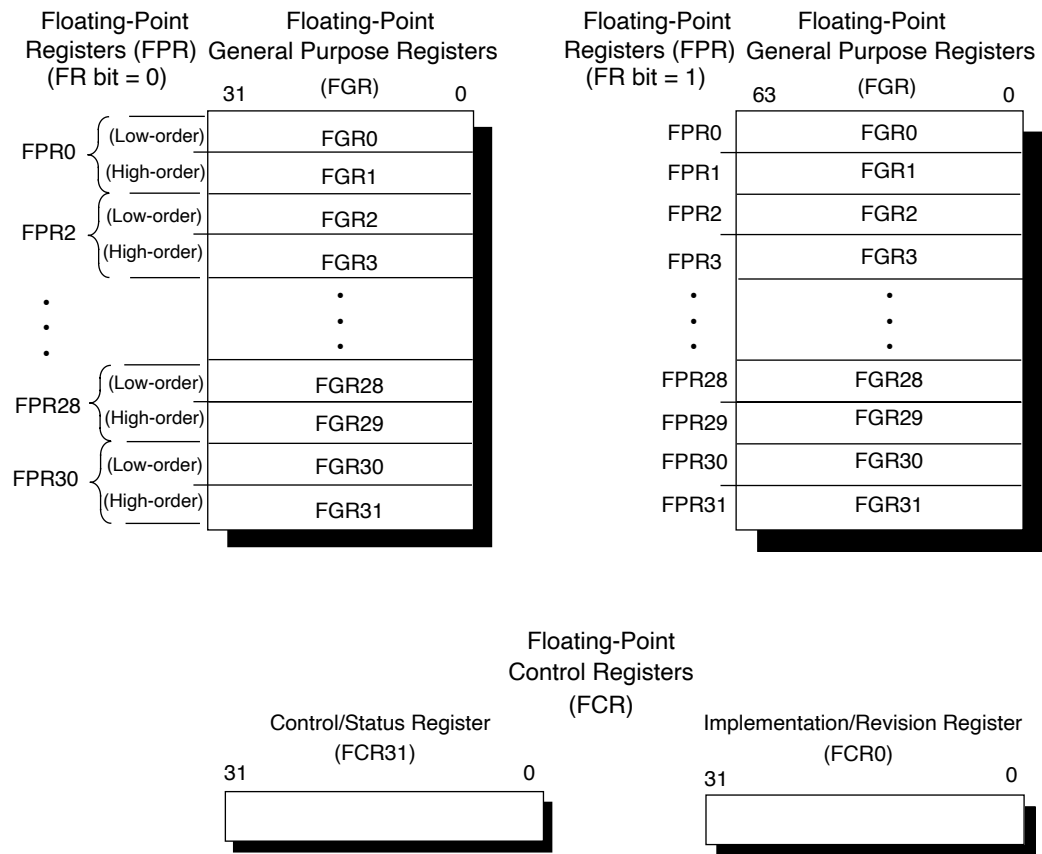

Figure 7-1 FPU Registers
- As 16 floating-point registers (FPR) (see the next section for a description of FPRs), each of which is 64-bits wide, when the *FR* bit in the *Status* register equals 0. The FPRs hold values in either single- or double-precision floating-point format. Each FPR corresponds to adjacently numbered FGRs as shown in Figure 7-1.
- As 32 floating-point registers (FPR) (see the next section for a description of FPRs), each of which is 64-bits wide, when the *FR* bit in the *Status* register equals 1. The FPRs hold values in either single- or double-precision floating-point format. Each FPR corresponds to an individual FGR as shown in Figure 7-1.
The *FPRs* hold values in either single- or double-precision floating-point format. If the *FR* bit equals 0, only even numbers (the *least* register, as shown in Figure 7-1) can be used to address *FPRs*. When the *FR* bit equals 1, all *FPR* register numbers are valid. If the *FR* bit equals 0 during a double-precision floating-point operation, the *FGR* can be used in double pairs. Thus, in a double-precision operation, selecting *Floating-Point Register 0 (FPR0)* actually uses adjacent *Floating-Point General Purpose* registers *FGR0* and *FGR1*.